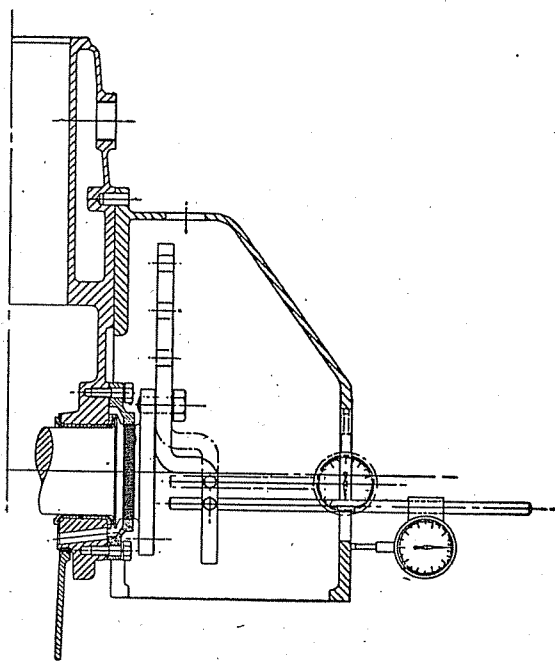

Fig. 30.
- (1) Secure the base of a "clock" gauge to the flange of the crankshaft.
- (2) Set the needle of the gauge to the interior of the bored hole in the clutch housing. (Figure 30.)
- (3) Turn the crankshaft and check that this hole is truly central. The housing is adjusted until the bored hole is central.
- (1) With the face of the "clock" gauge still bolted to the crankshaft flange, adjust the "clock" so as to set the needle against the vertical face on the clutch housing, and, again turning the crankshaft, check that this face is perpendicular to the crankshaft axis. (Figure 30.)
- (2) This facing should be within .0025 inch plus or minus of being truly at right angles to the crankshaft axis.
- (3) This degree of accuracy should prevail in any position of the indicator clock.
- (4) All adjustments to bring the clutch housing within the limits must be on the clutch housing and under NO CONDITION must the rear of the cylinder block be interfered with.
- (5) When the housing is properly aligned to the above limits, tighten the eight securing nuts evenly.
- (6) Ream the three $\frac{3}{8}$ inch dowel holes and fit the correct length and size dowels.